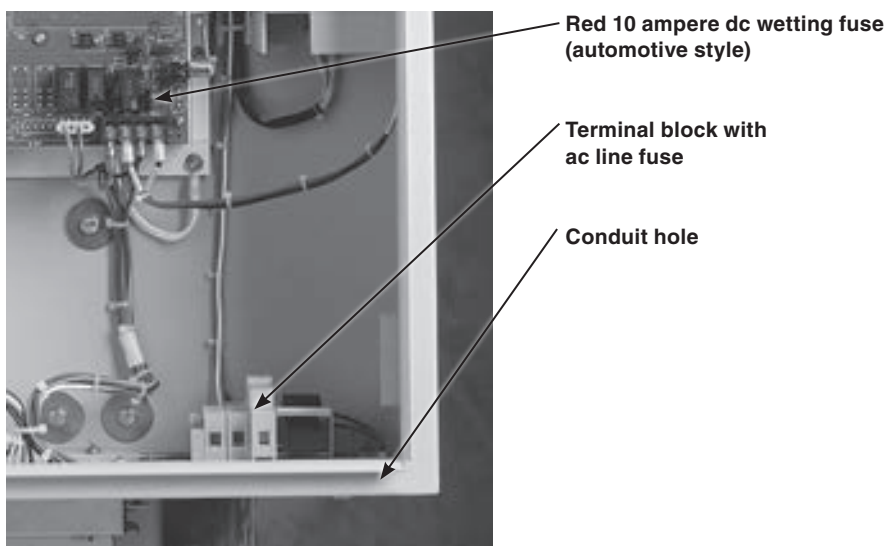

Figure 10. Fuses, conduit hole, and terminal block.
- (a) Inside the switch control, remove the 10-ampere ac line fuse, near the bottom right corner of the enclosure. See Figure 10.
- (b) Locate the conduit hole, which accepts a 1-inch conduit adapter, on the right side of the switch control enclosure floor. See Figure 10. Remove the shipping plug from the hole.